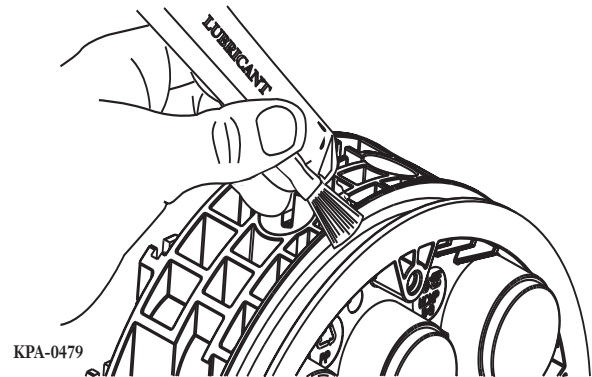

Figure 49 — Lubricate Sealing Ring Channel
- Step 3** Use the supplied brush to apply a third of the UCN lubricant tube to the sealing ring channel on the end cap (Figure 49).